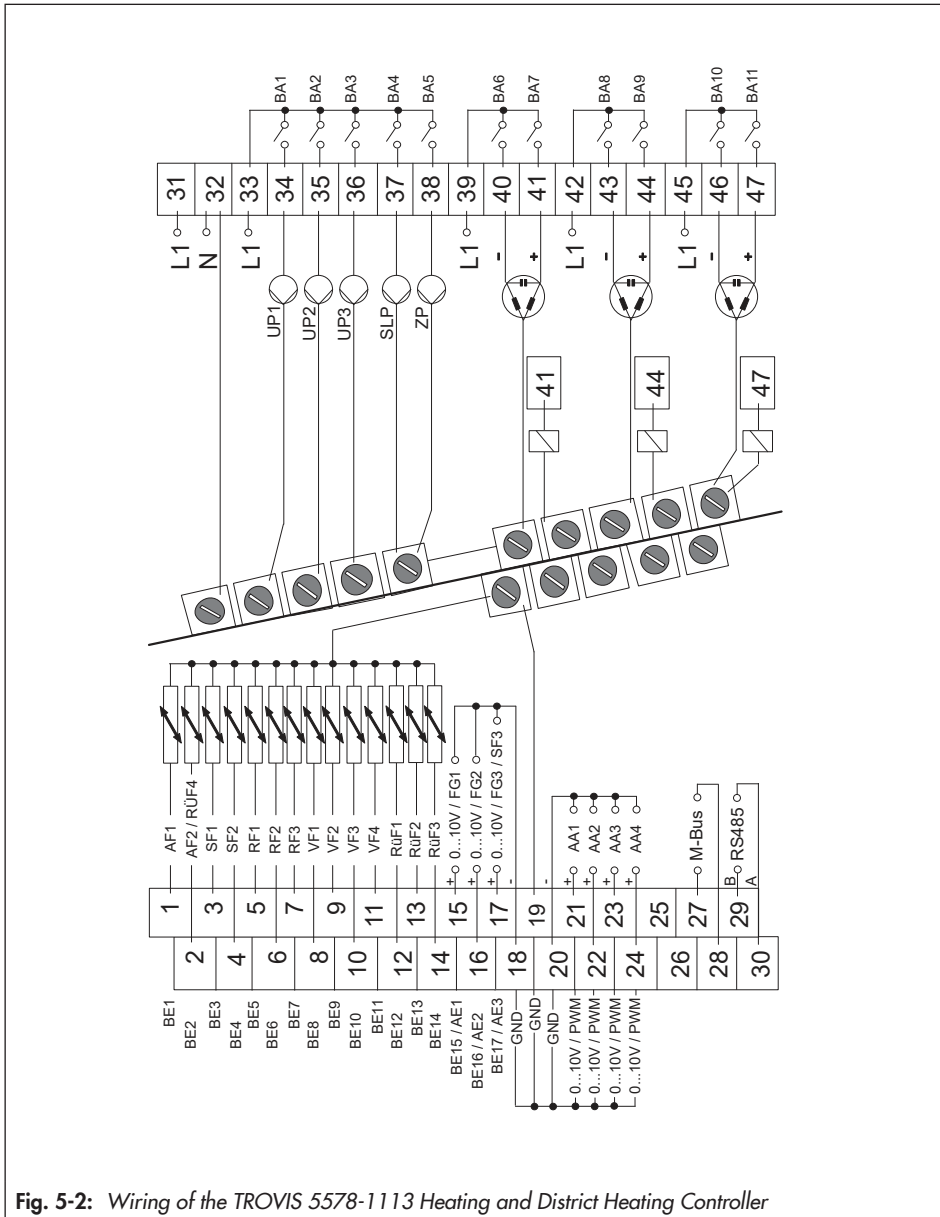

Fig. 5-2: Wiring of the TROVIS 5578-1113 Heating and District Heating Controller
- Connect the wiring as shown in Fig. 5-2 (TROVIS 5578-1113) or Fig. 5-3 (TROVIS 5578-1114).
### Legend for Fig. 5-2: